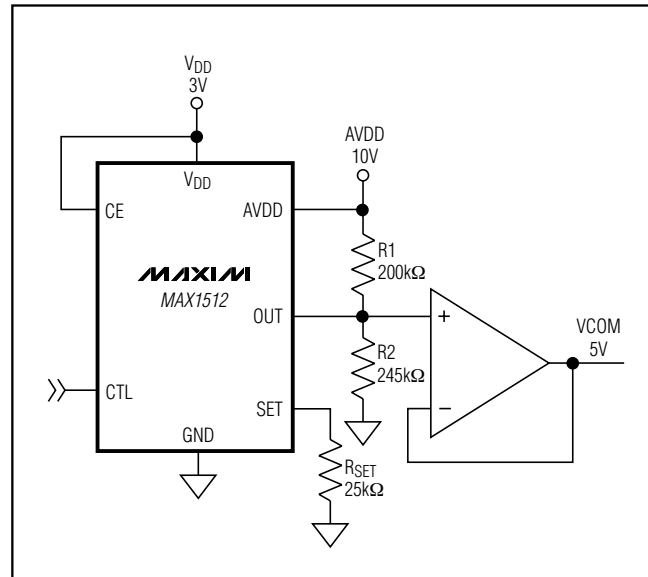
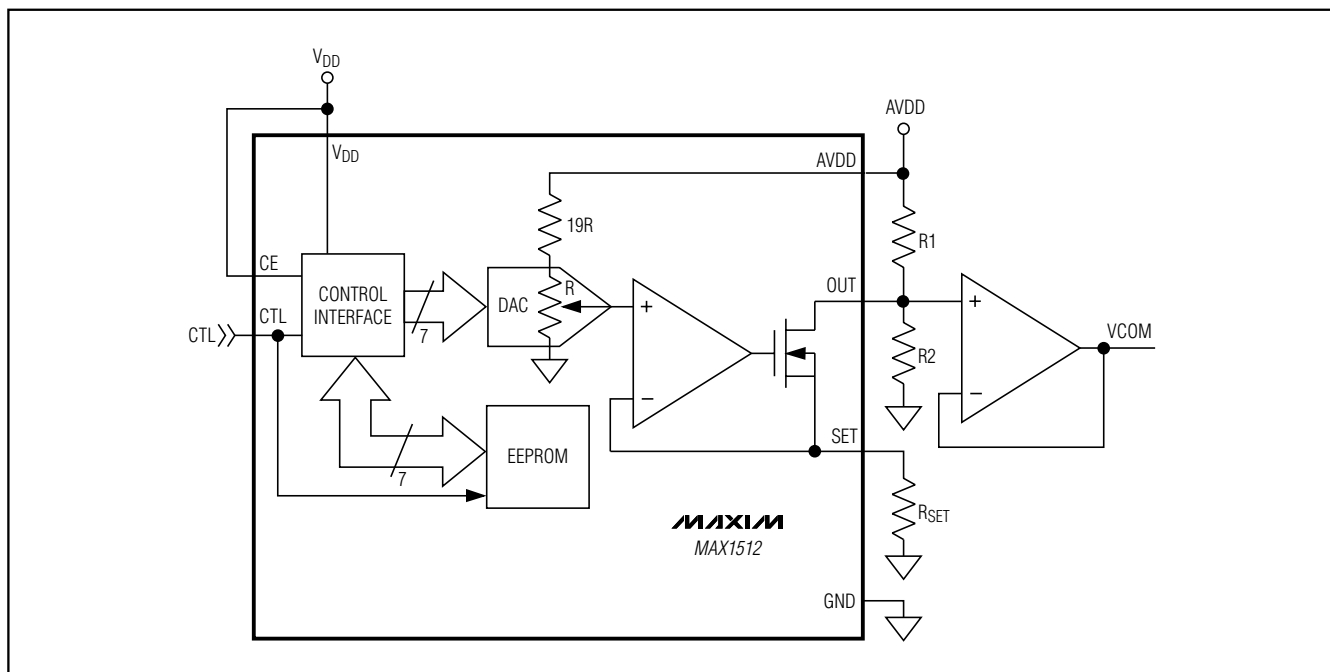

Figure 1. Standard Application Circuit
Figure 2. Simplified Functional Diagram
(Circuit of Figure 1, V_{DD} = 3V, V_{AVDD} = 10V, V_{OUT} = 5V, R_{SET} = 30.1kΩ, T_A = 0°C to +85°C, unless otherwise noted. Typical values are at T_A = +25°C.) (Note 1)
(Circuit of Figure 1, $V_{DD} = 3V$, $V_{AVDD} = 10V$, $V_{OUT} = 5V$, $R_{SET} = 30.1k\Omega$, $T_A = 0^{\circ}C$ to $+85^{\circ}C$, unless otherwise noted. Typical values are at $T_A = +25^{\circ}C$.) (Note 1)
(Circuit of Figure 1, $V_{DD} = 3V$, $V_{AVDD} = 10V$, $V_{OUT} = 5V$, $R_{SET} = 24.9k\Omega$, $T_A = +25^\circ C$, DAC half scale, unless otherwise noted.)
The MAX1512 is a solid-state alternative to mechanical potentiometers used for adjusting the LCD backplane voltage (VCOM) in TFT LCD displays. The MAX1512 attaches to an external resistive voltage-divider and sinks a programmable current (I_{OUT}), which sets the VCOM level (Figure 1). An internal 7-bit DAC controls the sink current and allows the user to increase or decrease the VCOM level (Figure 2). The DAC is ratio-metric relative to AVDD and is monotonic over all operating conditions. The user can store the DAC setting in an internal EEPROM. On power-up, the EEPROM pre-sets the DAC to the last stored setting. The single-wire interface between the LCD panel and the programming circuit adjusts the DAC, programs the EEPROM, and provides programming power.
- Place the VCOM buffer and the R1/R2 voltage-divider close to the OUT pin (Figure 1). Keep the VCOM buffer and the R1/R2 voltage-divider close to each other.